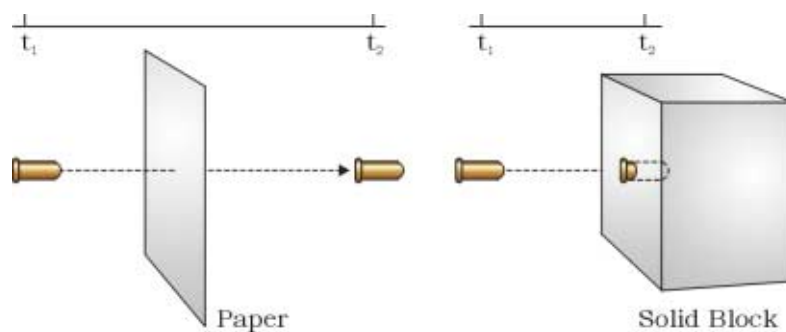

Figure 18: large time step issues in collision detection: on the left a collision is missed completely, on the right an interpenetration results.
- Collisions are missed – the so-called “bullet through paper” effect (see Figure 18.) Objects that are moving quickly will pass right through thin objects particularly if the time step is too large (i.e. a time  $t_1$  the bullet is in front of the piece of paper, but at the next time step,  $t_2$ , the bullet has been placed on the other side of the piece of paper.)